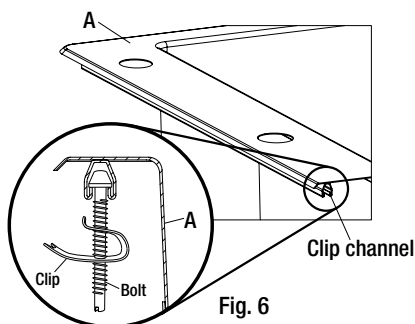

Fig. 6
- Install the topmount clips and bolts into the clip channels of the sink as shown in figure 6. Use figure 8 to determine how many clips to install into each channel.
- Apply silicone sealant (not included) around the underside of the flange of the sink (A) on all four sides or all around the top edge of the cutout in the countertop.
- Carefully lower the sink (A) into the counter, ensuring that the topmount clips (G) do not catch on the counter edges. Ensure that the sink (A) is centered and parallel with the front of the counter.
- Adjust each topmount clip along the channels so that they are evenly spaced around the sink (A).